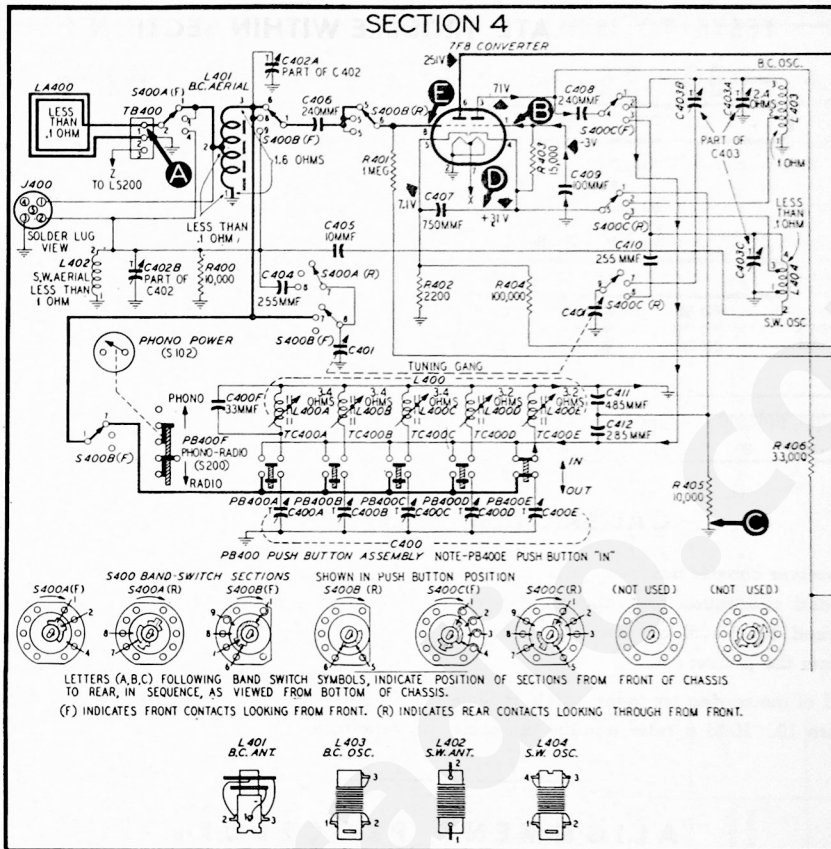

Figure 8. Section 4, r-f circuit, schematic.
**Note 1** Signal-Generator Connections. — Connect the r-f signal generator ground lead to the receiver chassis, test point "C"; connect the output lead through a .1-mf condenser to the points indicated in the chart and figures 8 and 9. The normal indication in each case will be a loud, clear signal, when the receiver is tuned to the same frequency as the signal generator.